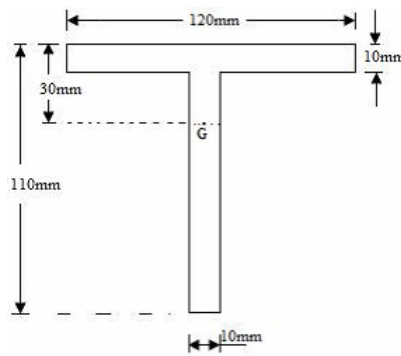

Figure 1
- Analyze the T- beam given in Figure 1 and calculate the shear stresses at top of flange and web-flange junction. It has shear force of 30 KN. G is the centroid of the beam. Draw the shear stress distribution diagram for the section. [BL: Apply| CO: 4|Marks: 7]